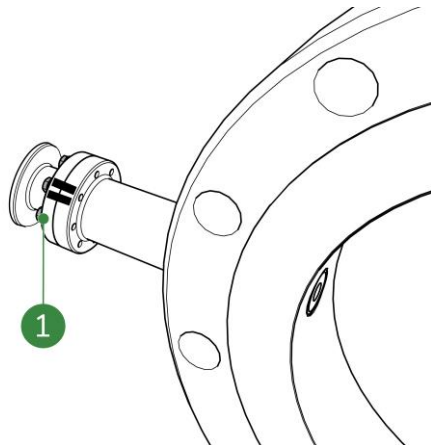

Figure 8-12: M5 bolts and washers
6. Remove the bolts and washers (Figure 8-12, pos. 1).